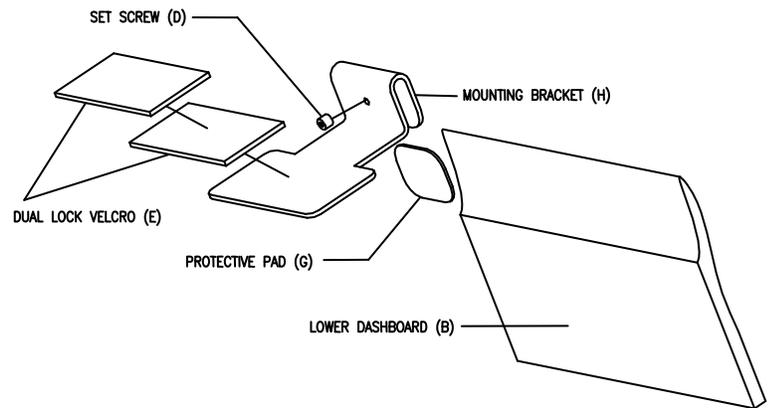

Figure 3 Mounting Bracket Vertical
6. Vertical Mounting Bracket (H) has been added to provide additional mounting options (fig 3). In some cases, Mounting Brackets (F & H) can be inserted between face panel (A) and lower dashboard (B). Additional drilling of bracket may be required.